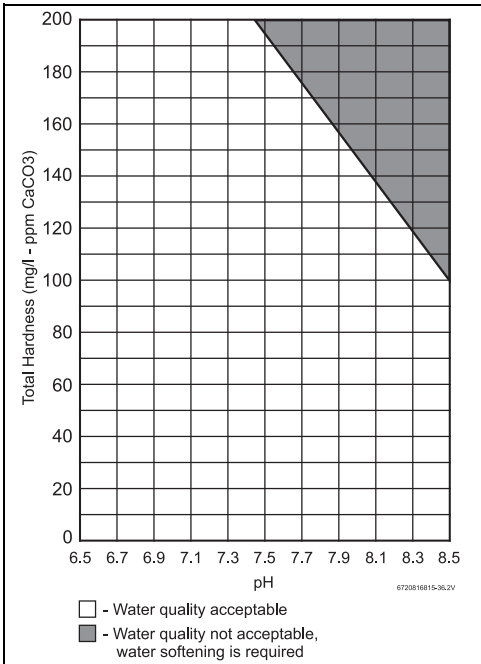

Fig. 11 Water total hardness and pH values
Water quality can have an impact on appliance longevity. Water supplied to the Greentherm T9800 SEO must be in accordance with table 11 and fig. 11.
For water analysis data call your local water department, or if on a well, have well water analyzed periodically. Heavy scale will form if the combination of water total hardness and pH exceeds the values specified in fig. 11 (grey area), Bosch recommends consulting a local water treatment professional for water softening/conditioning options.
1. Total Hardness and pH maximum values must be evaluated in combination. Indicated maximum values will be reduced according to fig. 11.